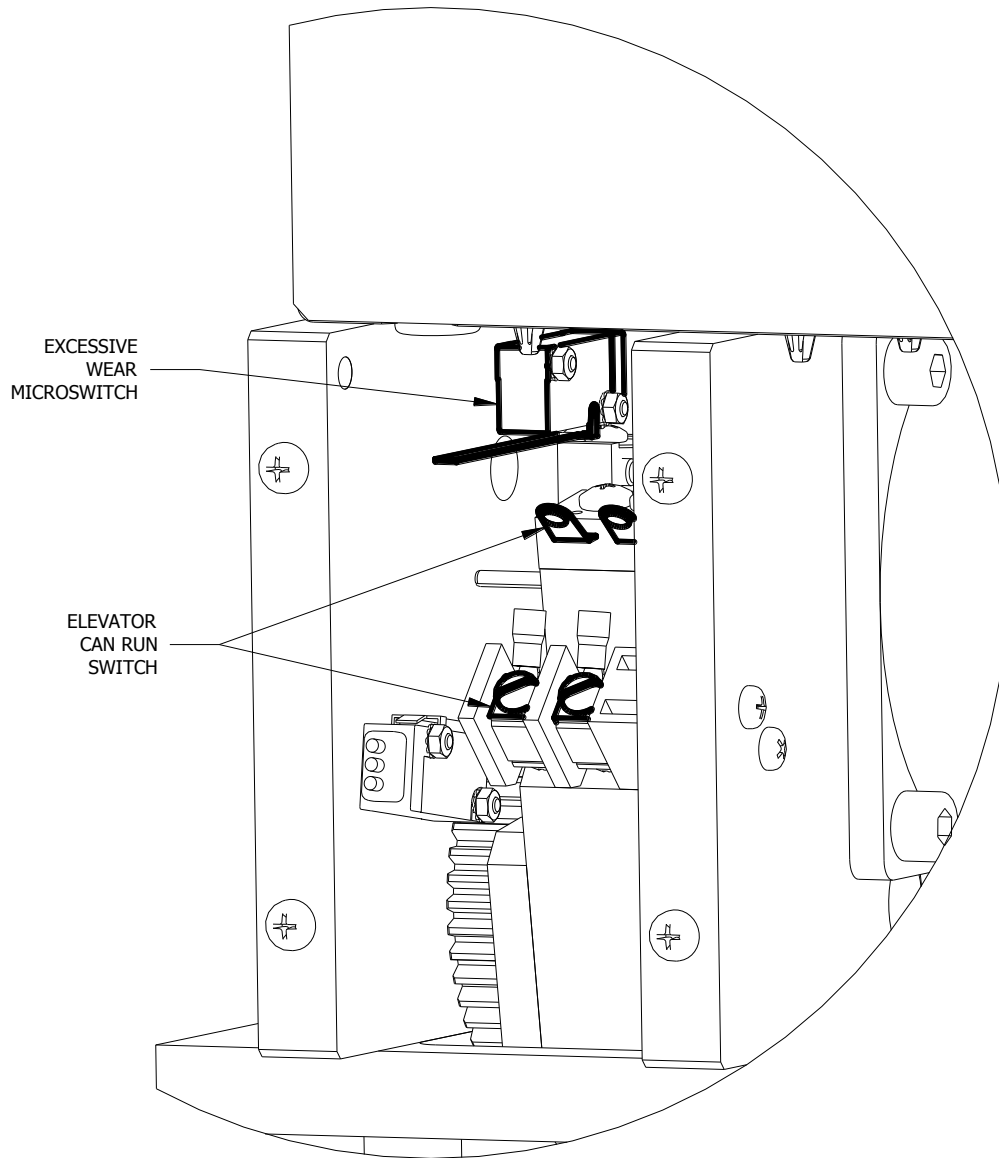

Figure 4
- Turn test switch to OFF. This should activate the “ROPE GRIPPER™”, clamping the ropes. Be sure that while clamping the ropes, the Elevator Can Run switch (see Figure 4) contacts on the “ROPE GRIPPER™” stop or prevent power from being applied to the motor and machine brake.
- The linings will wear, especially after multiple high-speed stops. When clamping, the rotating shaft will move towards the upper end of the cam as the linings wear. Near the end of the cam, the excessive wear microswitch (see Figure 4) will open and the “ROPE GRIPPER™” will not automatically reopen (reload).